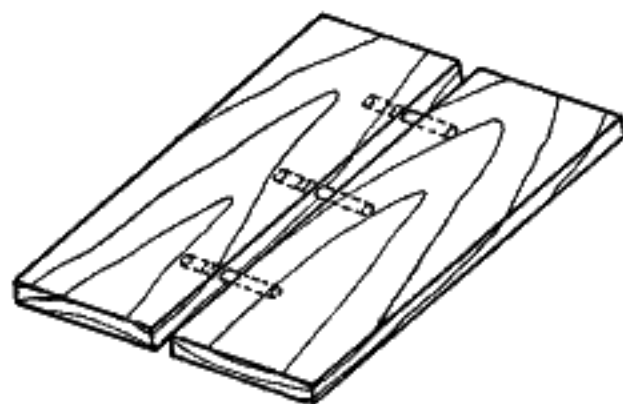

FIG. 87.—A doweled joint ready to be glued and assembled.
89. Doweling.—A doweled joint is one in which the pieces are held together by round wooden pins called *dowels*. Figure 87 illustrates a